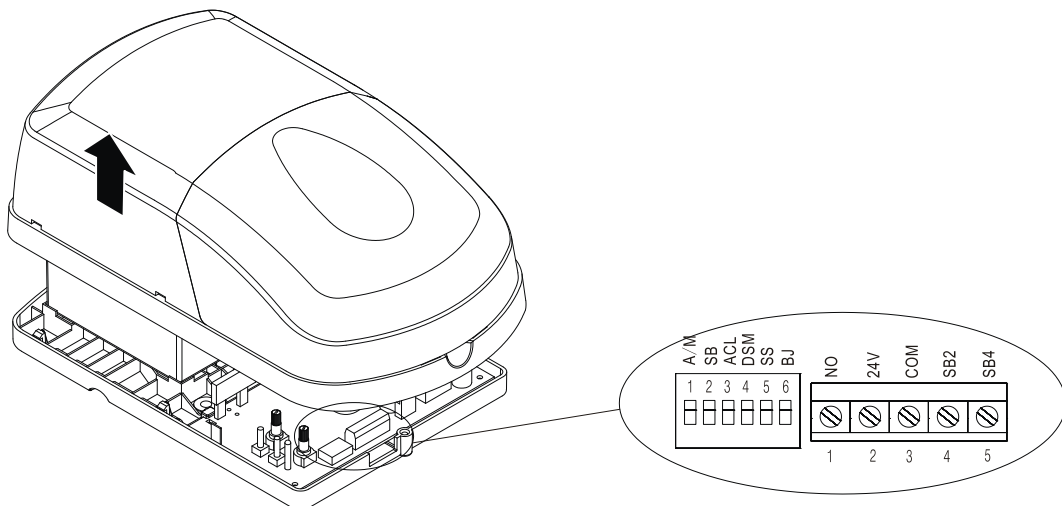

Fig. 3
- To access the Dip Switches and Accessory Connectors remove the Control Box cover (Fig.3) by pulling outwards and upwards, on both sides, at the location marked by the arrow.